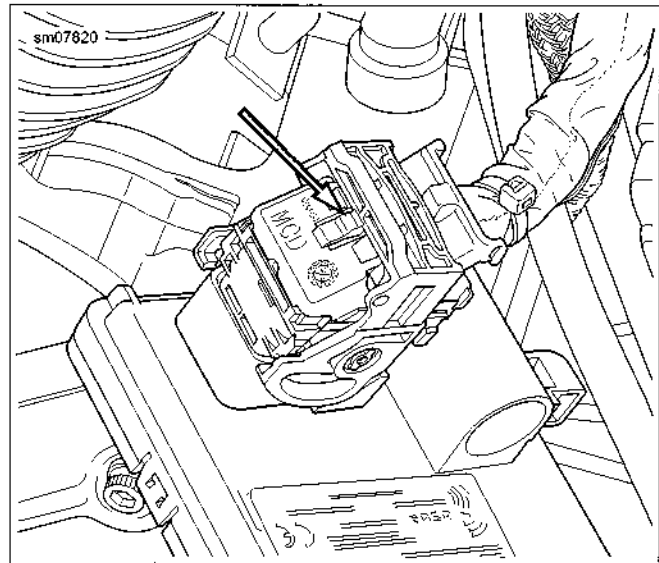

Figure 6-9. BCM Connector [242] Release
5. See Figure 6-9. Press the central release on BCM connector [242B]. Rotate locking bar. Remove the housing.